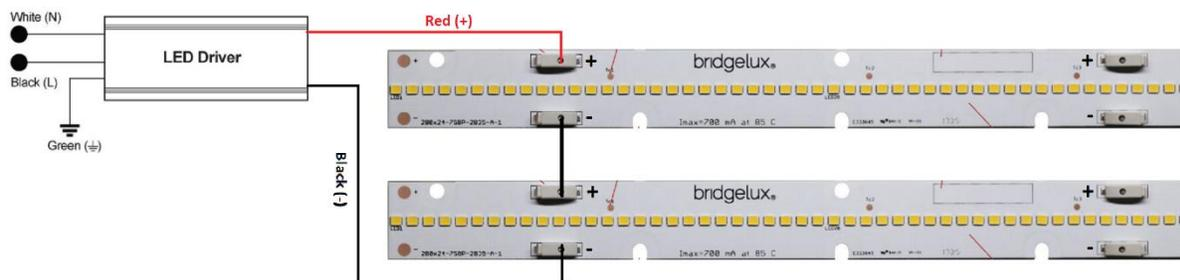

Figure 3: Showing Two EB Series modules in Series Configuration
1. When using a single LED driver with a single constant current output channel, connect the modules in series to complete the electrical circuit (Figure 3). This arrangement ensures that all modules will be operated at the same current.